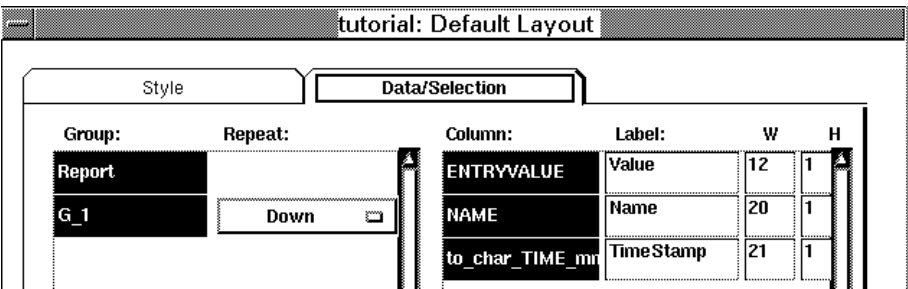

Figure 3-24. Re-naming and Re-sizing Columns
18. Re-name and re-size your columns as described below and shown in Figure 3-24.